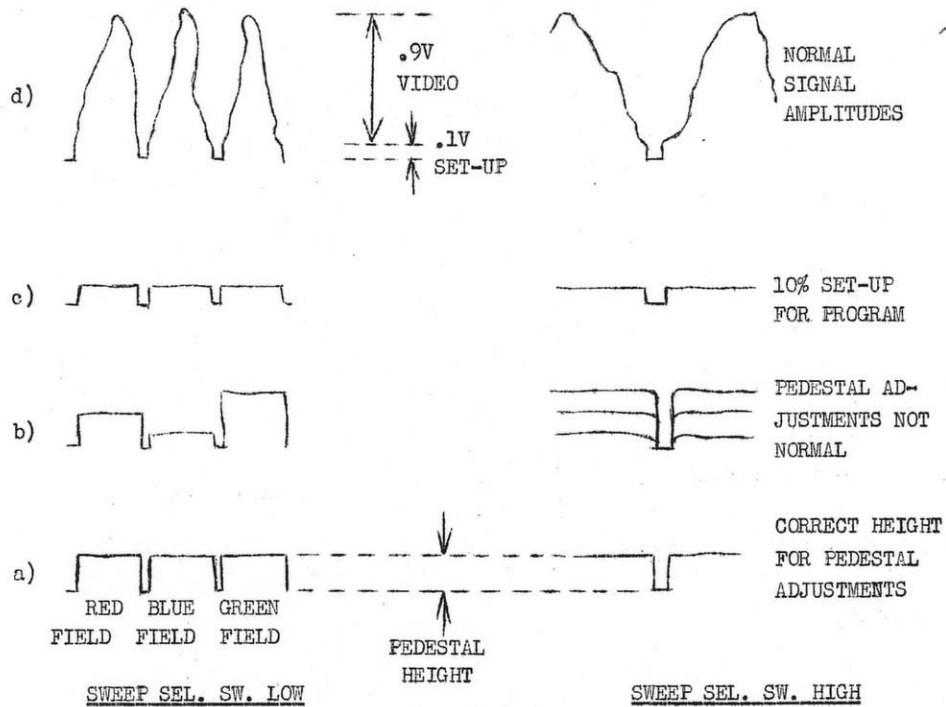
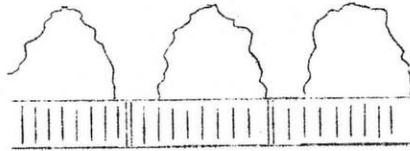

FIG. 7
Fig. 10a
Punch in Monitor Selector switch button marked "COLOR MIXER", and then adjust "BRIGHTNESS" control until the pedestal height (see fig. 7) is approximately one-quarter of an inch high on oscilloscope screen (wave form monitor).
- (3) Tubes loose, or not in their socket. The amplifier and tubes can be quickly checked with the MONITOR SELECTOR switch. Punch in PRE-AMP test button and observe Kinescope and Waveform Scope. Camera picture should appear at this point as soft and streaking. If not, open up back of camera and tap the last tube slightly with a pencil. Microphonic bars should appear on the kinescope picture. When this section is working properly, punch in CHANNEL button. The picture should appear quite clean and crisp, with its amplitude regulated by the VIDEO GAIN control. This traces the signal up to the Color Mixer stages. To test Color Mixer stages and Blanking or Pedestal injection, punch in COLOR MIXER button, where the waveforms as given in Fig. 7 should be visible. Punch in button marked LINE OUTPUT, where the composite video plus Sync signal should be visible, similar to that shown in Fig. 10a and 10b below.
The preliminary adjustments given on page 15 and shown in Fig. 7 are sufficient if care is taken. If the SWEEP SELECTOR switch is turned to HIGH, the red, blue and green pedestals are superimposed, and if the adjustments are made so that each pedestal falls exactly upon the others, a white of approximately 4000° Kelvin temperature will result. If the oscilloscope trace pattern is thick, it is possible that the pedestals will not superimpose accurately, with the result that the white raster may look pinkish, greenish or bluish. Some operators use a fluorescent desk lamp, fitted with a 3500° K or 4500° K lamp bulb, sitting nearby for their notes and schedule sheets, and use a white piece of paper under the lamp to see what their white raster should look like. This serves as an excellent reference because sometimes one finds that as the program progresses, your idea of white may drift to slightly pink, blue, or green and you adjust the control accordingly. The reference light source will correct this,